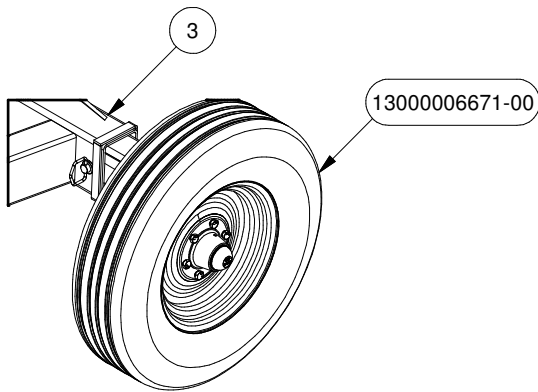

FIGURE 2
5. Attach the Tires PN# 6671 to the Axle using the Wheel Bolts as shown in Figure 2.